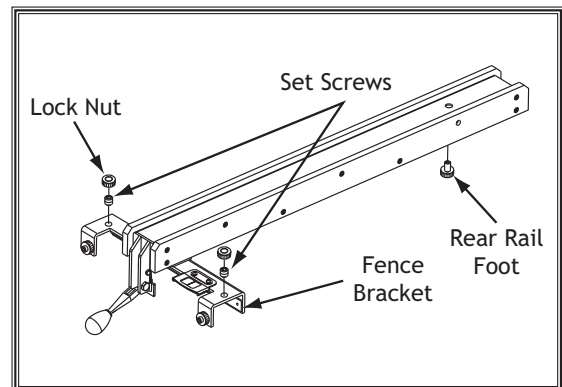

Figure 104. Fence components used to adjust fence height and squareness to table.
3. Adjust the set screws (see **Figure 104**) on top of the fence bracket to ensure the fence face is 90° to the table, then tighten the knurled lock nuts.
5. Adjust the fence height with the rear rail foot until the gap between the table and the fence is approximately 1/16" and even from the front of the table to the back. **Note:** If the front end of the fence needs to be adjusted up or down, use the set screws from **Figure 104**; turn them in even increments and recheck the squareness afterwards.